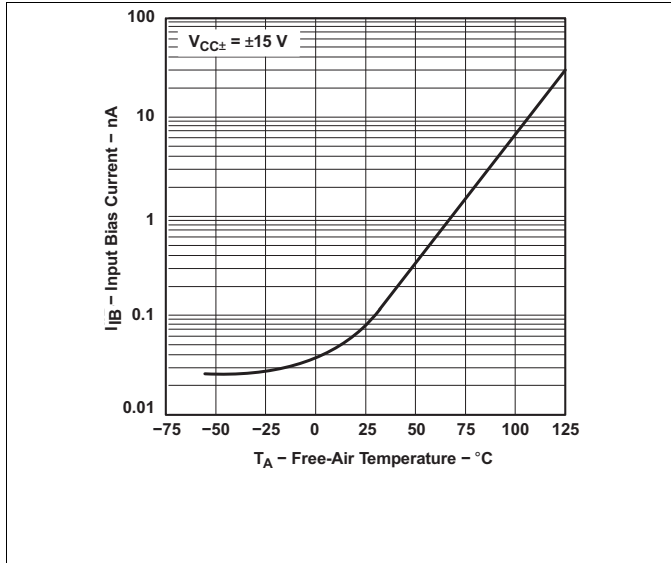

Figure 1. Input Bias Current vs Free-Air Temperature
- (1) All characteristics are measured under open-loop conditions with zero common-mode voltage, unless otherwise specified.
- (2) $T_A = -40^\circ\text{C}$ to 85°C .
- (3) Input bias currents of an FET-input operational amplifier are normal junction reverse currents, which are temperature sensitive, as shown in Figure 1. Pulse techniques must be used that maintain the junction temperature as close to the ambient temperature as possible.
- Input bias currents of an FET-input operational amplifier are normal junction reverse currents, which are temperature sensitive, as shown in Figure 1. Pulse techniques that maintain the junction temperature as close to the ambient temperature as possible must be used.
- (1) Input bias currents of an FET-input operational amplifier are normal junction reverse currents, which are temperature sensitive, as shown in Figure 1. Pulse techniques that maintain the junction temperature as close to the ambient temperature as possible must be used.
- (2) All characteristics are measured under open-loop conditions with zero common-mode voltage, unless otherwise specified. Full range is $T_A = -55^\circ\text{C}$ to $+125^\circ\text{C}$.